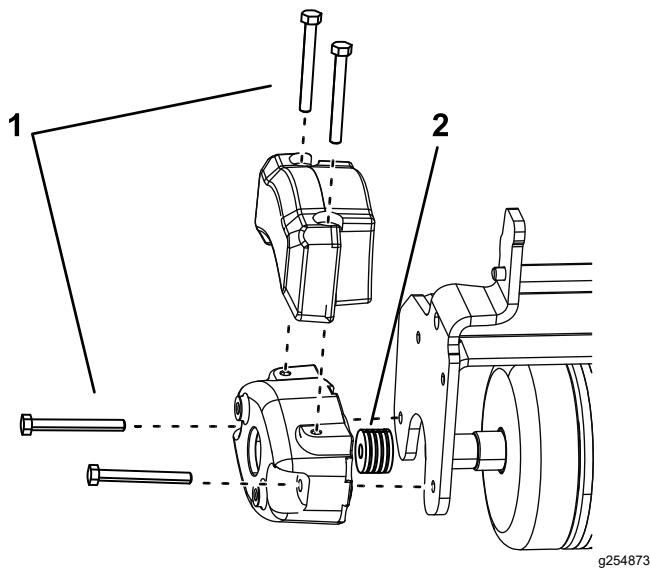

Figure 7
2. Install 2 bolts (5/16-18 x 2 3/4 inch) as shown in Figure 7.
3. Install 4 spacers (1/8 inch) per bolt between the counterweight and the tri-roller side plate (Figure 7).